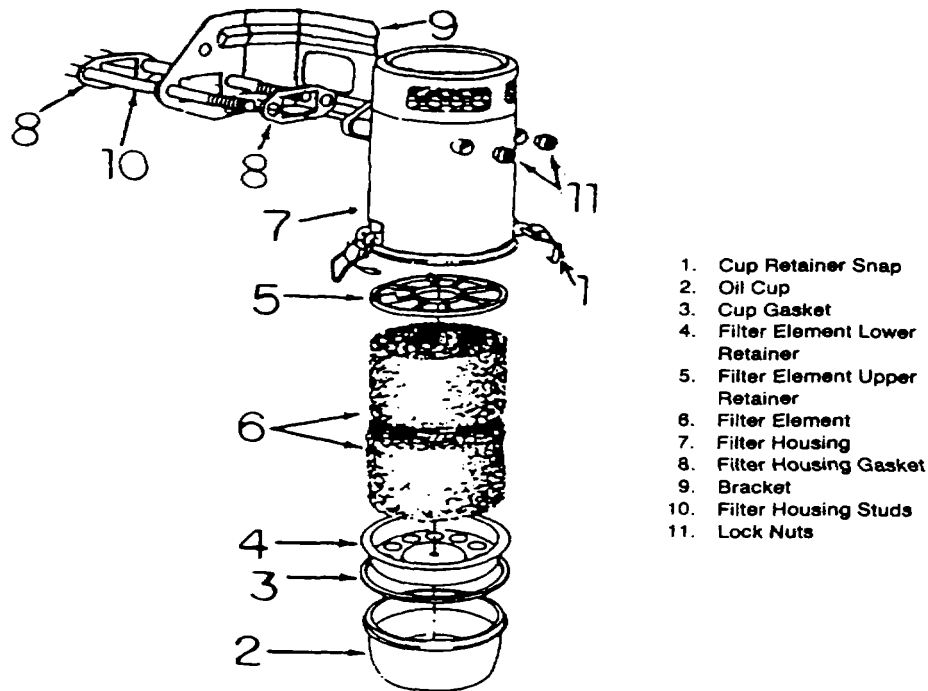
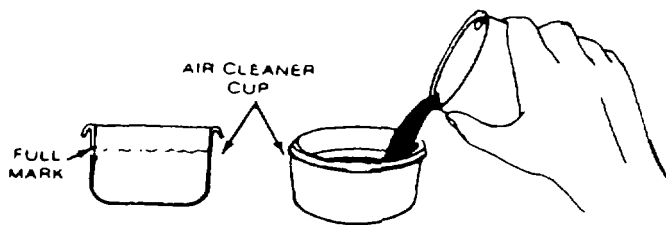

Figure 4-2. Engine Oil Bath Air Cleaner Assembly
Figure 4-3.
- (1) Release cup retainer snaps (1, Fig. 4-2).
- (2) Remove cup and cup gasket (2 and 3, Fig. 4-2)
- (3) Verify that oil level in cup (2, Fig. 4-2) is up to "Full" as shown in Figure 4-3 Add SAE 30 oil conforming to MIL-L-2104 as required.
- (4) Inspect oil cup gasket (3, Fig. 4-2) for wear and damage. Replace worn or damaged gasket.
- (5) Install oil cup and cup gasket (2 and 3, Fig. 4-2) onto filter housing (7, Fig. 4-2). Secure with two snaps (1, Fig. 4-2).
- (1) Remove oil cup. (Ref. para 4-5a).
- (2) Drain oil from oil cup.
- (3) Remove filter elements and retainers (6, 4, and 5, Fig. 4-2).
- (4) Wash all parts in clean diesel fuel. Dry all parts thoroughly.
- (5) Wipe dirt from inside of housing (7, Fig. 4-2). Make sure no dirt is allowed to enter the engine inlet port.
- (6) Assemble filter elements and retainers as shown in Figure 4-2.
- (7) Fill oil cup with SAE 30 lubricating oil conforming to MIL-L-2104 as shown in Figure 4-3.
- (8) Install oil cup. (Ref. para 4-5a).